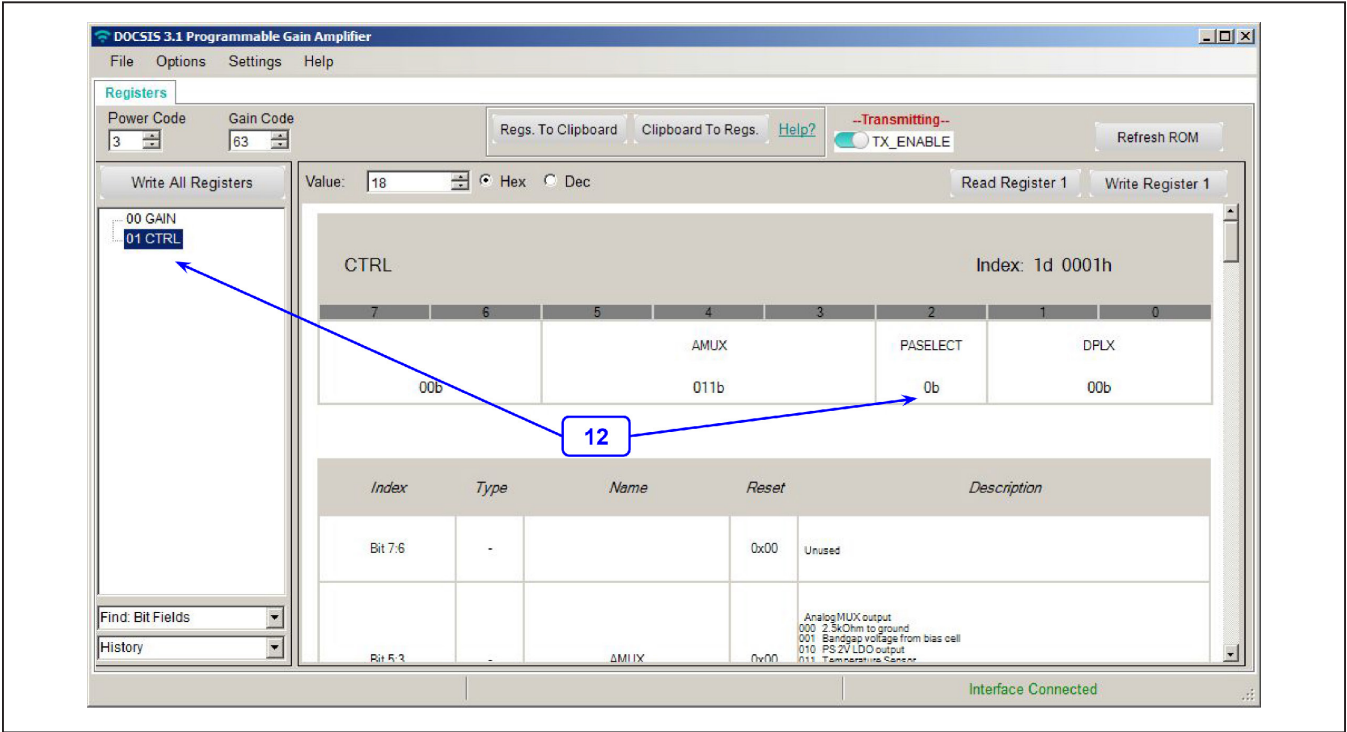

Figure 3. EV Kit GUI Register01
- 12) Depending on which output SMA is connected, user needs to set PASELECT bit accordingly. On the MAX3522B GUI, click 01 CTRL and then set PASELECT (see Figure 3) by clicking the register value (default = 0b). PASELECT = 0 enables OUTPUT1 (J2), PASELECT = 1 enables OUTPUT2 (J3).